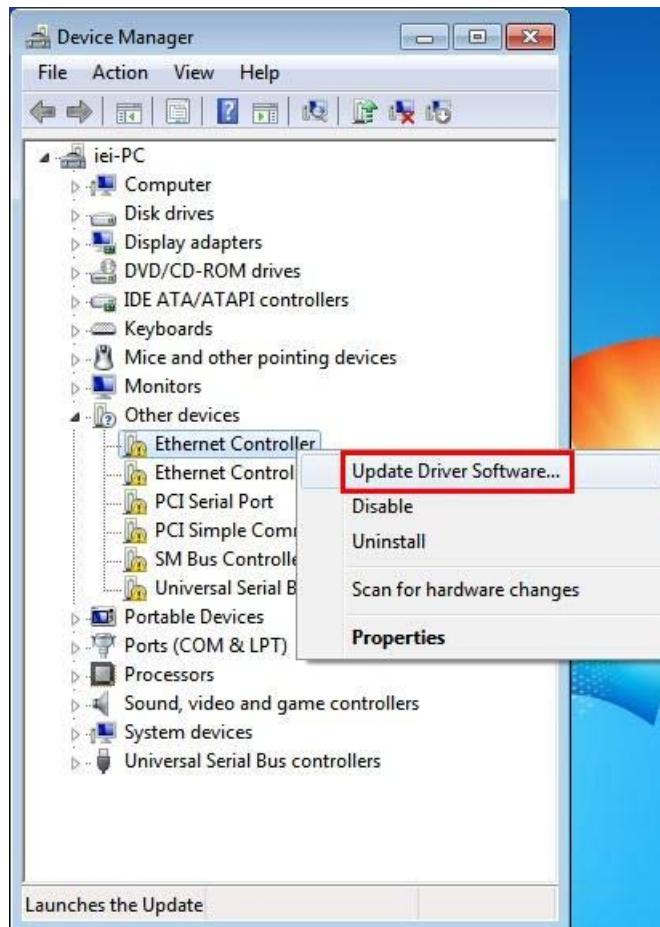

Figure 6-15: Device Manager List
Step 4: A list of system hardware devices appears (**Figure 6-15**).
Step 6: Select **Update Driver Software**. See **Figure 6-15**.
Step 13: Right-click the other Ethernet controller that has question marks next to it as shown in **Figure 6-15**. Repeat **Step 6 ~ Step 12** to install the second Ethernet controller driver.